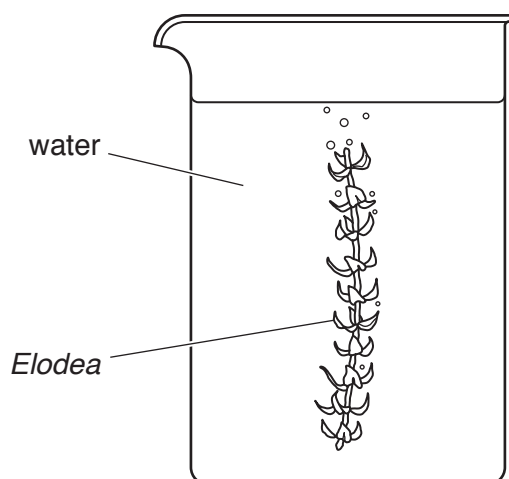

Fig. 2.1
- 2 Fig. 2.1 shows a cut stem of the water plant *Elodea* placed in a beaker of water. When light shines on the *Elodea* it photosynthesises, and bubbles of gas are produced.